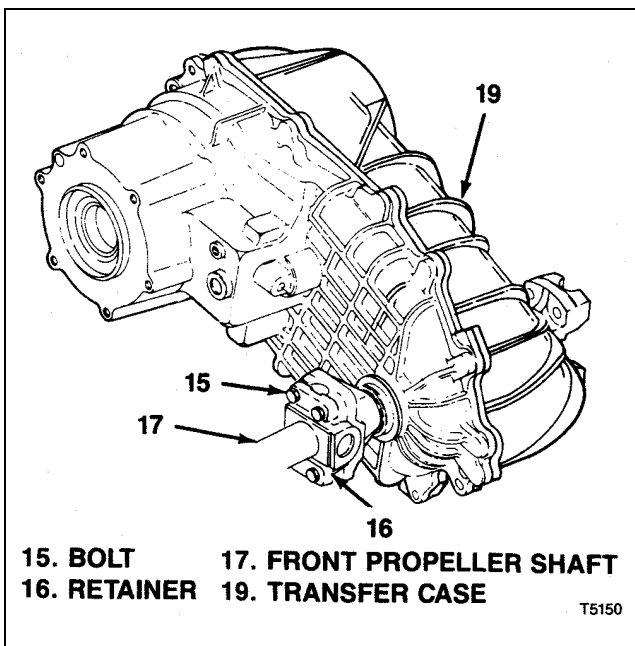

Figure 2-3. Front Propeller Shaft
**2-18. REMOVING TRANSFER CASE (4-WHEEL DRIVE VEHICLES ONLY).** On 4-wheel vehicles, proceed as follows to remove transfer case (see figure 2-3 and 2-4 and refer to WARNING following paragraph 2-14, step a):
- a. Remove front propeller shaft (17, figure 2-3) by removing bolts (15) and retainers (16). Observe same precautions in handling front propeller shaft as for rear propeller shaft (refer to paragraph 2-17).
**2-24. INSTALLING TRANSFER CASE (4-WHEEL DRIVE VEHICLES ONLY).** On 4-wheel drive vehicles, proceed as follows to install transfer case (see figure 2-3 and 2-4):
**Keep transfer case completely supported by jack or stand until bolts (18) attaching transfer case (19) to transmission (10) are installed and torqued. Do not allow transmission to "hang" from clutch by splines shaft since this may damage input bearings.**
- e. Make sure mounting holes in transmission (10) and transfer case (19) are aligned and install bolts (18). Torque bolts to 23 lb-ft (31 Nm). Remove jack or stand.
- g. Make sure front propeller shaft (17, figure 2-3) is properly lubricated and install. Attach to transfer case (19) with retainer (16) and bolts (15). Torque bolts to 15 lb-ft (29Nm).